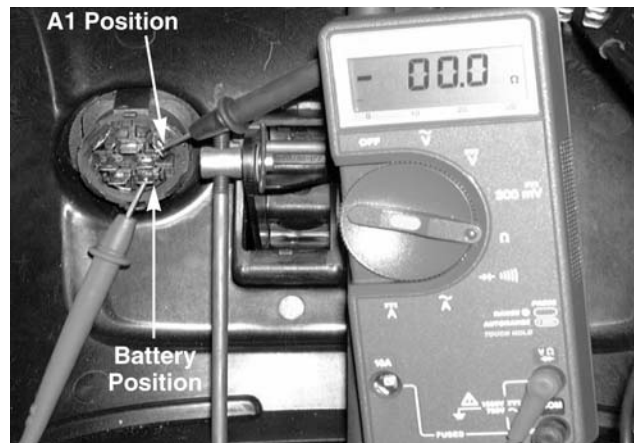

Figure 9-85
–There will be **CONTINUITY**. See Figure 9-85.